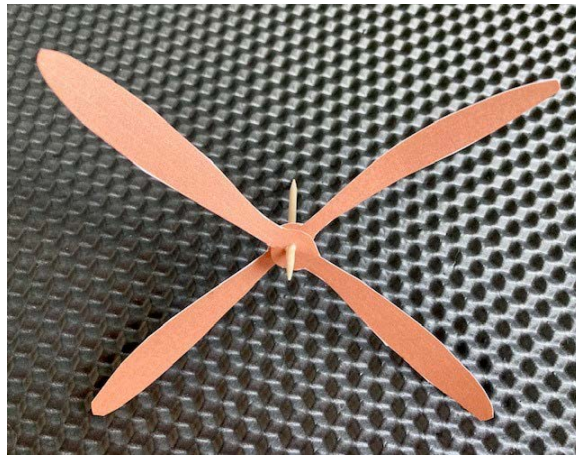

Figure 6. Push the toothpick through the second rotor blade and adjust the blades so they are aligned in opposite directions.
7. Push the toothpick through the hole in the second rotor blade and adjust the blades so that they are aligned in different directions as shown in *Figure 6*. There should be a space of about $\frac{1}{8}$ inch between the two rotors.